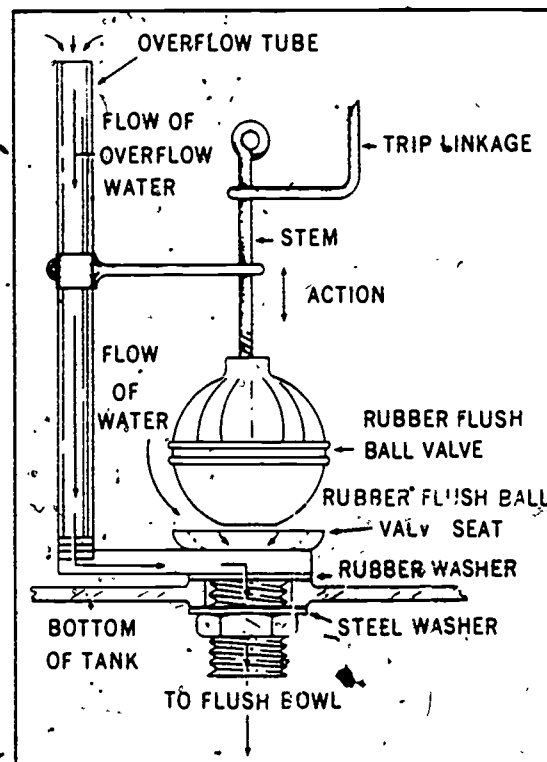

Figure 1-46. Water closet flush-ball valve.
b. Water closet flush-ball valve. The water closet flush-ball valve, shown in figure 1-46, is used in a closet tank to release water from the closet tank into the closet for flushing. This valve is usually operated by a trip lever which lifts the ball off the valve seat. The ball is buoyant, and when lifted, floats until the water level recedes to a point where the ball is drawn onto